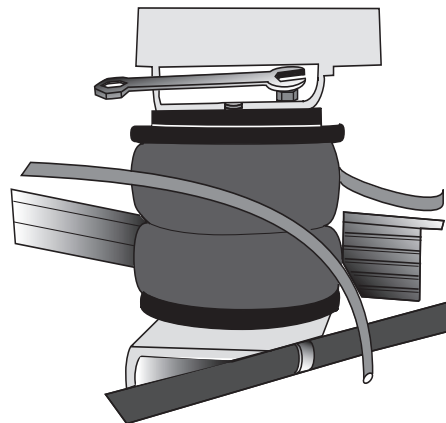

fig. 16
- Tighten both bellows to top bracket mounting bolts (Fig. 16).